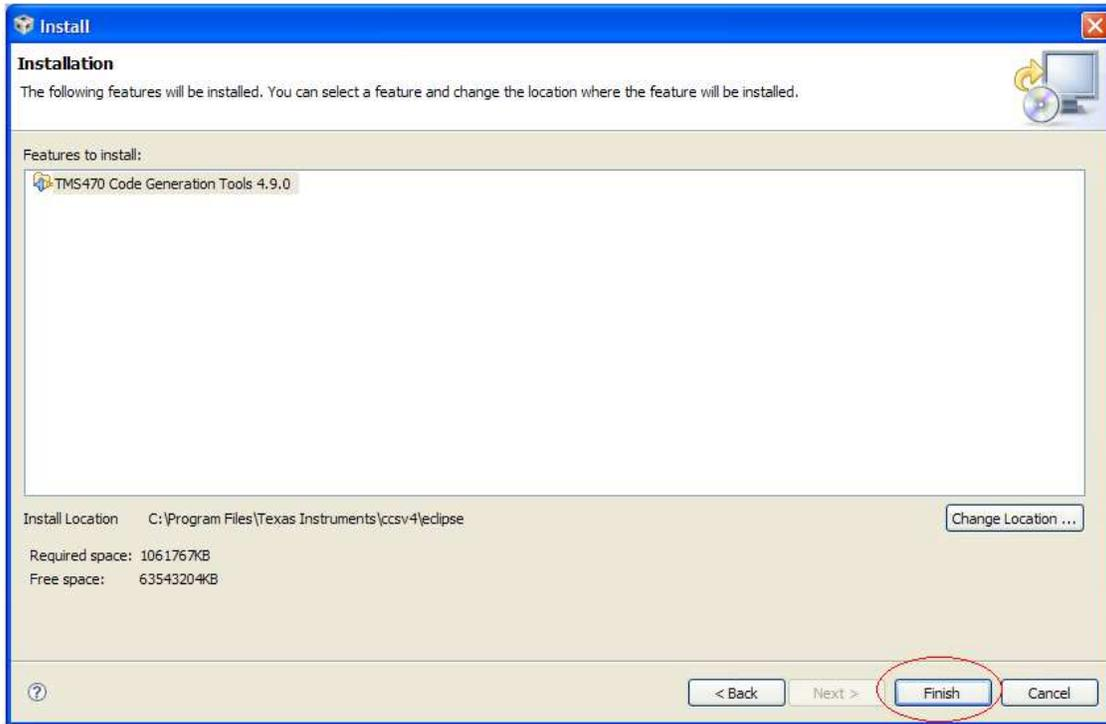

Figure 6. Install Window_Finish
4. Click on the Finish button as shown in Figure 6.